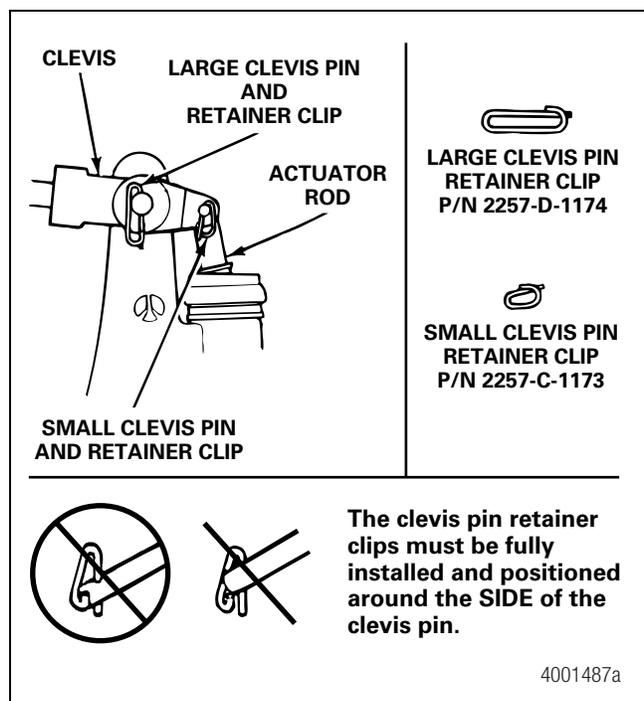

Figure 7.4
11. Install new clevis pin retainer clips to secure the clevis pins. Figure 7.4.